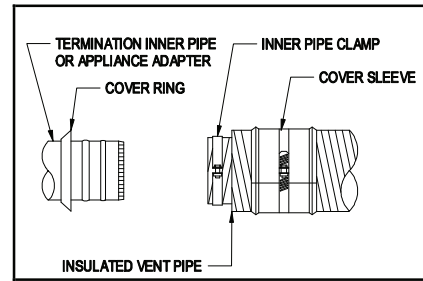

Figure 22
1. Pull outer vent pipe back 1"-2" from inner vent pipe end and remove insulation (Figure 22).
2. Slide Cover Sleeve onto end of vent pipe a few inches back from end of outer vent pipe (Figure 22).
3. Slide Cover Ring over stop bead on termination inner pipe or appliance adapter (Figure 22).
4. Assemble inner pipe clamp halves using the supplied  $\frac{1}{4}$ " bolts and square nuts, and position inner pipe clamp  $\frac{1}{4}$ " from end of inner pipe (Figure 22).